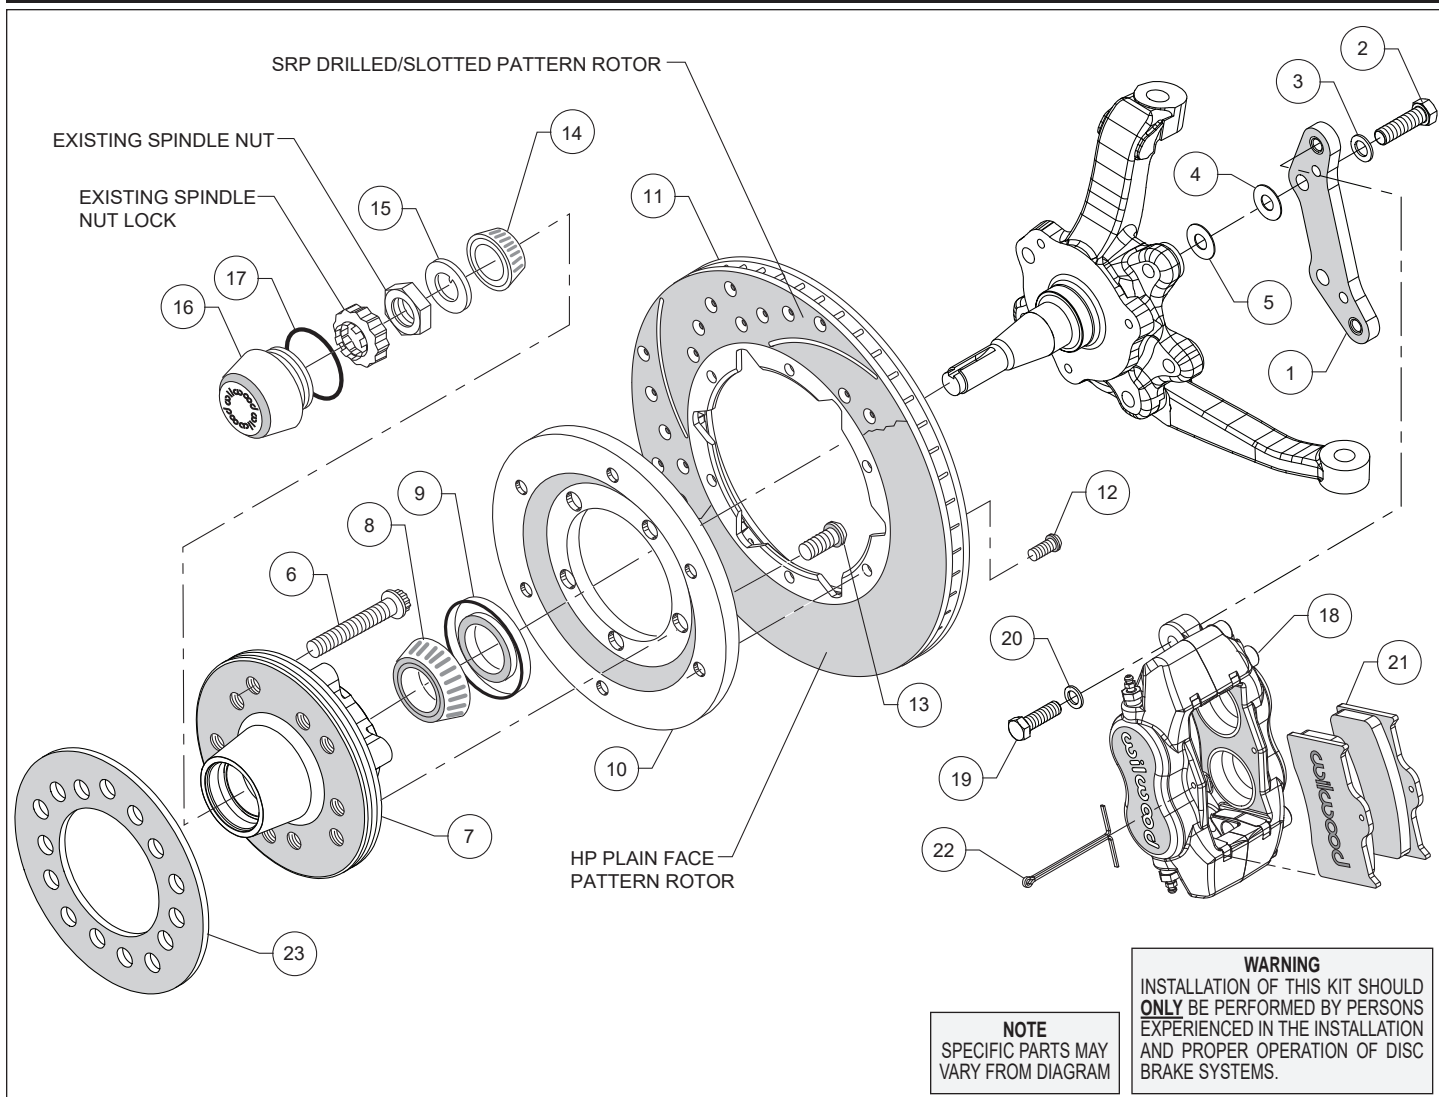

Figure 1. Typical Installation Configuration
Assembly Instructions (numbers in parenthesis refer to the parts list, on the preceding page and Figure 1): **CAUTION:** *All mounting bolts must fully engage clinch nuts.* Be sure to check that all bolts are either flush or protruding through flanged side of clinch nut after shimming.
- NOTE:** *Please reference the caution statement at the beginning of the assembly instructions.* Mount the caliper (18) onto the caliper mounting bracket (1) using bolts (19) and washers (20), as shown in Figure 1 and Photo 1. Temporarily tighten the mounting bolts. Ensure that the flanged heads of the clinch nuts in the bracket are facing away from the caliper, Figure 1. **NOTE:** *The end of each bolt must be flush with or slightly protruding from the head of the clinch nut.* Remove bolts one at a time, apply red *Loctite® 271* to threads and torque to 40 ft-lbs. The bracket/caliper assembly will be installed on the spindle later.
- Orient the rotor (11) and the rotor adapter (10) as shown in Figure 1 and Photo 4. Attach the rotor to the adapter using bolts (12). Using an alternating sequence, apply red *Loctite® 271* to the threads, and torque to 25 ft-lb.
- Mount the adapter/rotor assembly (10 and 11) to the hub (7) using bolts (13), as shown in Figure 1 and Photo 5. Using an alternating sequence, apply red *Loctite*® 271 to the threads, and torque to 45 ft-lb.
- The caliper/bracket assembly (18 and 1) should initially be installed with clean, dry threads on the mounting bolts. Orient the bracket as shown in Figure 1 and install onto the inboard side of the spindle using bolts (2) and washers (3). Initially place one .030 thick shim (4) on each bolt between the bracket and spindle, Photo 8. Temporarily tighten the mounting bolts and view the rotor (11) through the top opening of the caliper. The rotor should be centered in the caliper, Photo 9. If not, adjust by adding or subtracting shims (4 and/or 5) between the bracket and the spindle. Always use the same amount of shims on each of the two mounting bolts. Once the caliper alignment is correct, remove the bracket mounting bolts (2) one at a time, apply red *Loctite*® 271 to bolt threads, and torque to 60 ft-lb.